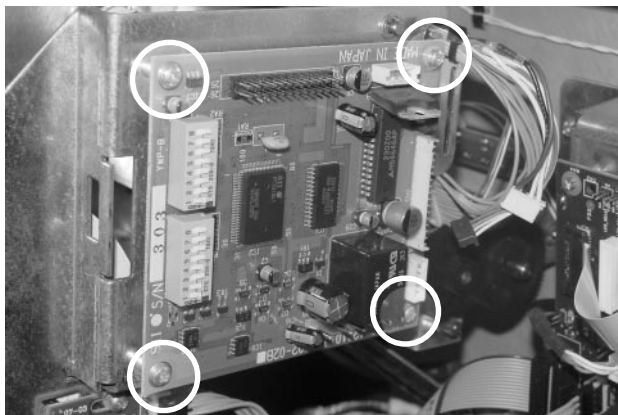

Figure 3-19. After disconnecting the cables from the printer controller board, remove the four screws that are highlighted in this photograph.
1. Unlock and open the cabinet sleeve door to the top enclosure. Turn off the AC input power by pushing the AC ON/OFF switch to the OFF(0) position.
3. Refer to Figure 3-19. Carefully unplug all cables from the printer control board.
4. Refer to Figure 3-19. Remove the four screws that hold the printer control board to the printer assembly.